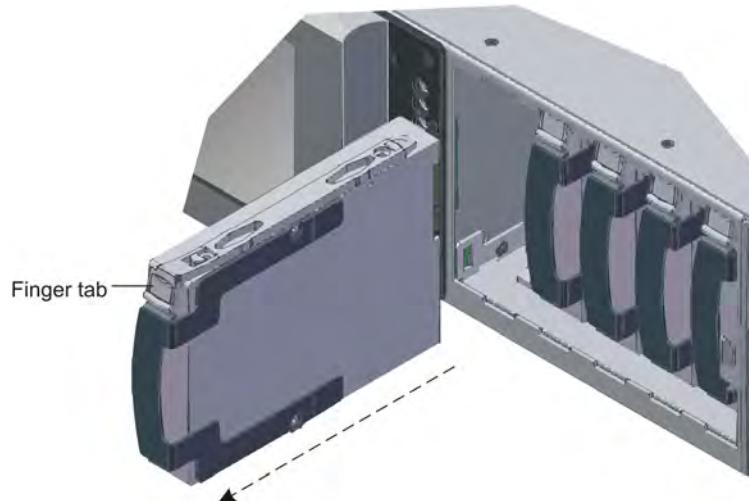

Figure 3-7 Remove Failed Drive from DP600
6. Match the failed drive number (determined in step 1) with the corresponding physical drive, then grasp the drive finger tab and slide it out of its slot, as shown in Figure 3-7.